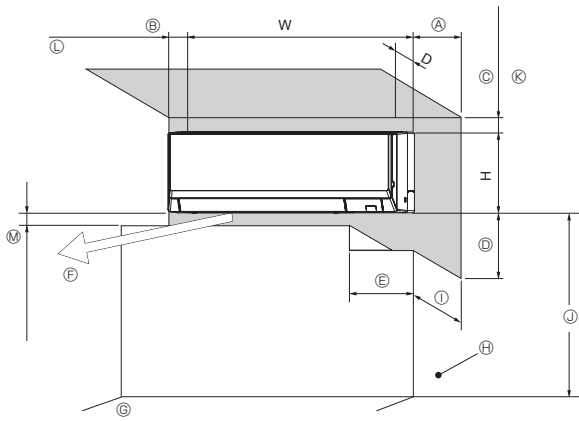

Fig. 2-1
2.1. Outline dimensions (Indoor unit) (Fig. 2-1, 2-2)